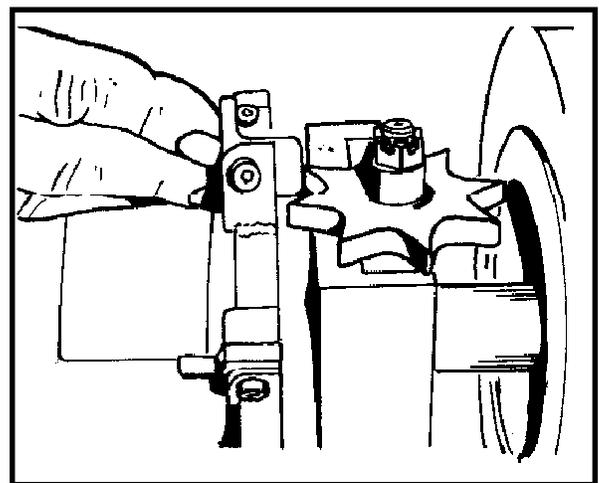

Figure 19
4. Time the Starwheel by engaging the desired number of trips. By hand, rotate the Starwheel past an engaged trip (Figure 19). This will ensure that the Starwheel is in the proper location to advance the tool slide as each engaging trip is passed.